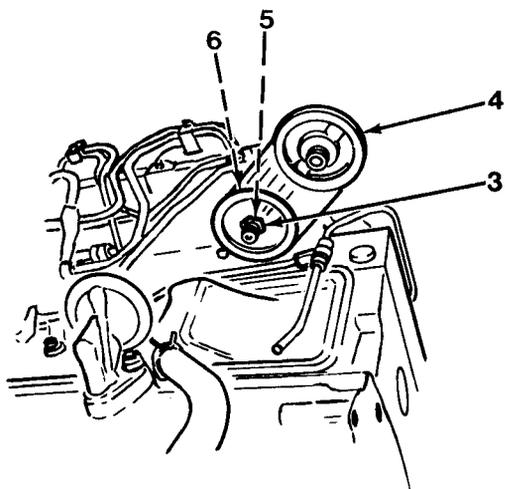

Figure 7-2
1. Install rectangular seal (6), O-ring seal (5), fuel filter head (4) and hexagon nut (3, Figure 7-2) to engine. Torque hexagon nut (3) to 24 lb-ft (33 N•m).